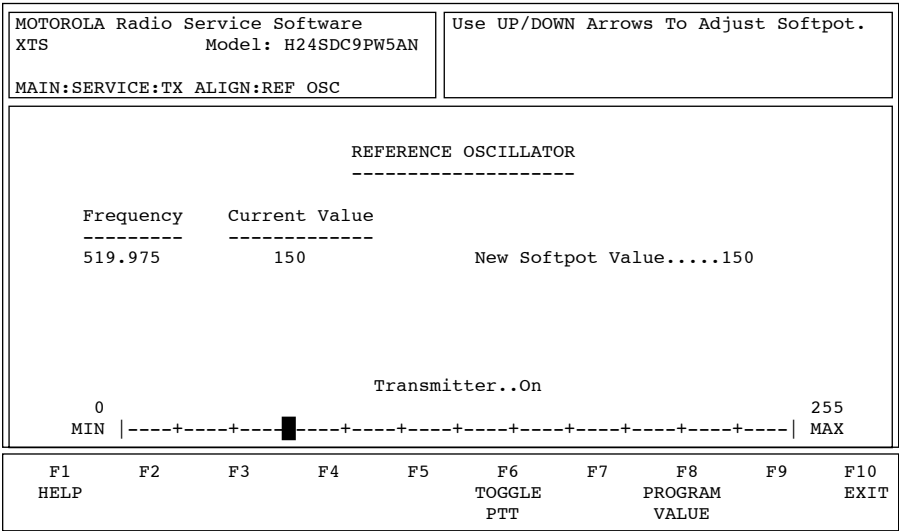

Figure 4 Reference Oscillator Alignment Screen
2. Press **F2** again to select the REFERENCE OSCILLATOR alignment screen. See Figure 4.